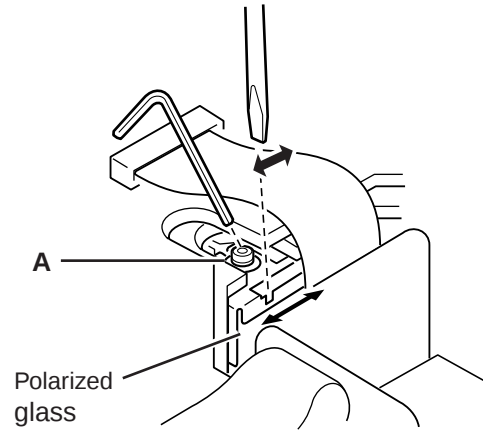

Fig.3
2. Loosen a screw “A” (Fig.3/4) on the polarized glass mounting base which you intend to adjust.
3. Turn the polarized glass mounting base by using a slot driver as shown in Fig.3 to obtain the darkest brightness on the screen.